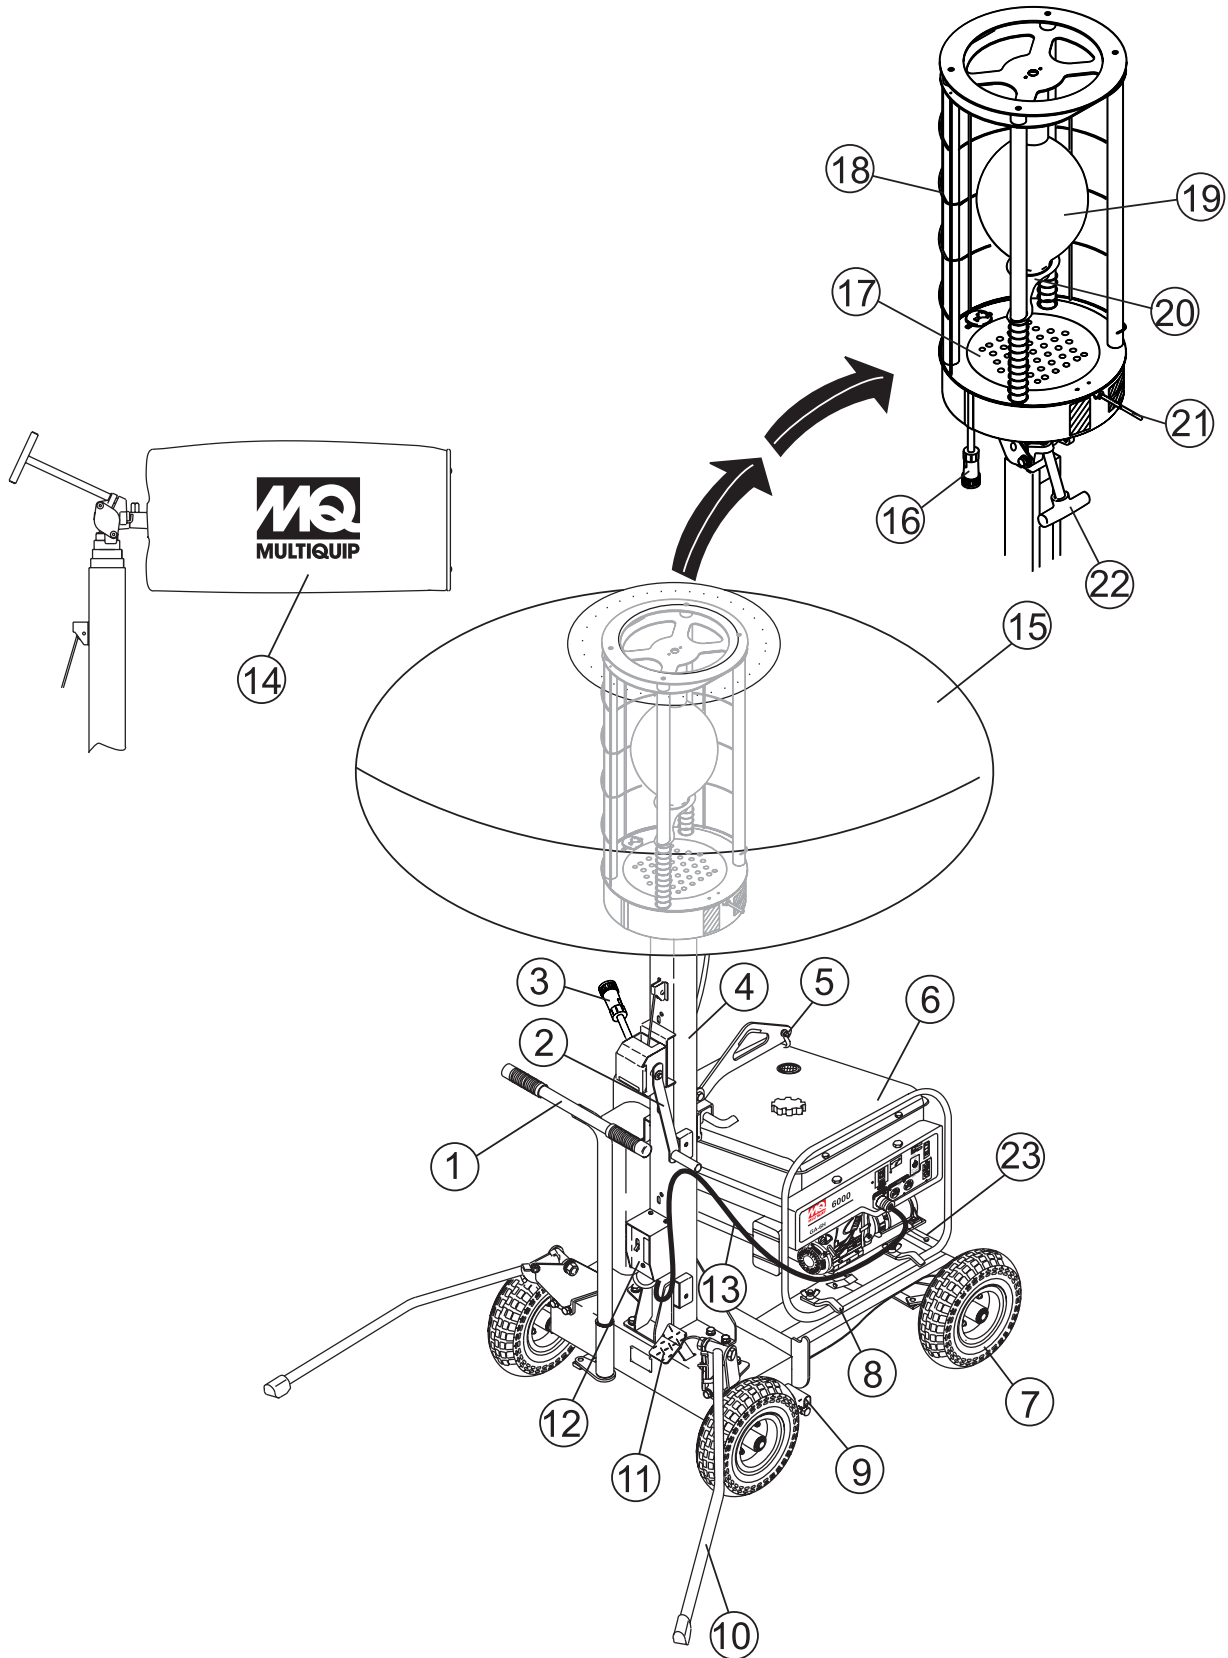

Figure 6. Major Components
Figure 6 shows the location of the controls and components for the GloBug Lighting System. The functions of each control is described below:
4. Using the mechanical winch (Figure 6, item 2), **fully lower** the mast. Turn winch handle counter-clockwise to lower mast.
5. Using the adjustment lever (Figure 6, item 22) place the balloon/lamp assembly in the stow position.